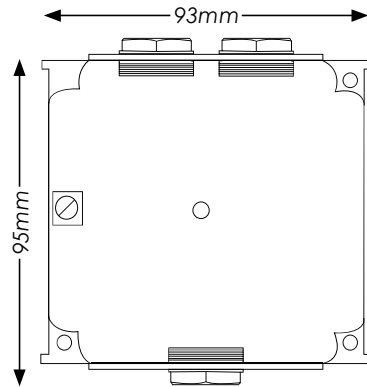

Fig. 1 Backbox
- Fit the backbox to a flat surface using the three fixing holes and screws provided. The cable entry holes should be in the vertical plane. The backbox can be mounted with either the single or double entry holes at the top. (Fig. 1).